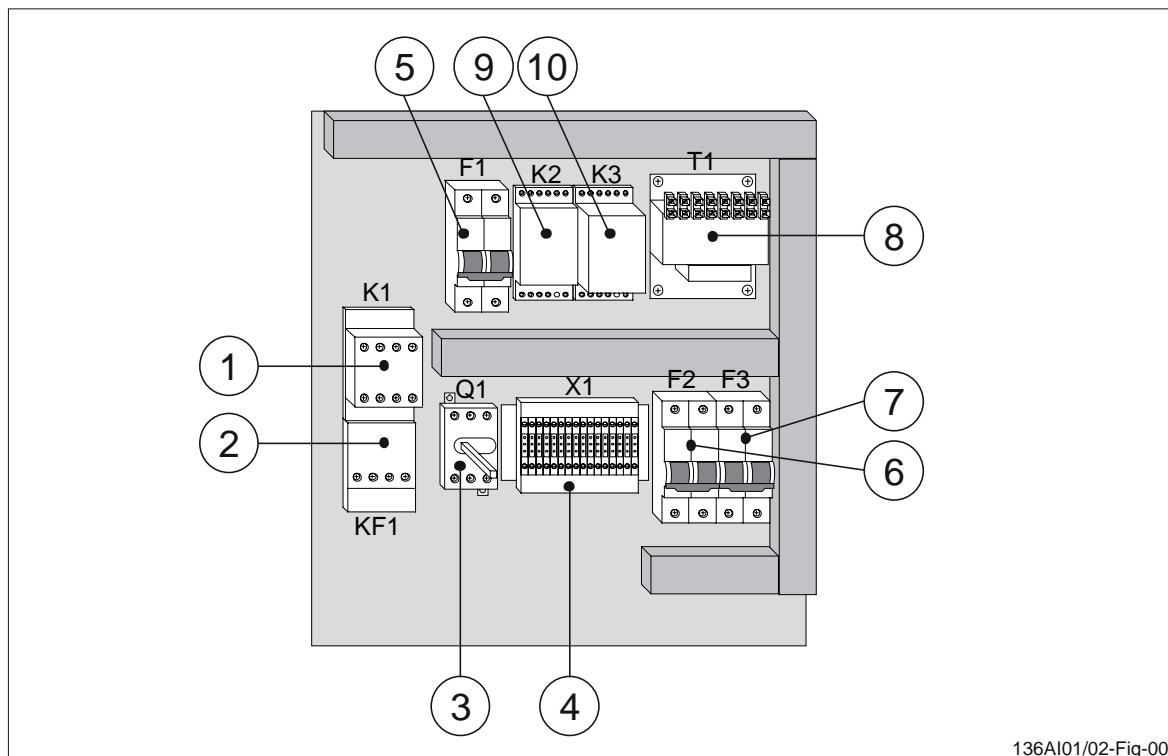

Figure 6 Internal equipment of pump motor starter P3.
5. Disconnect the overcurrent relay KF1 (see position 2 in figure 6) from the contactor K1 (see position 1 in figure 6).